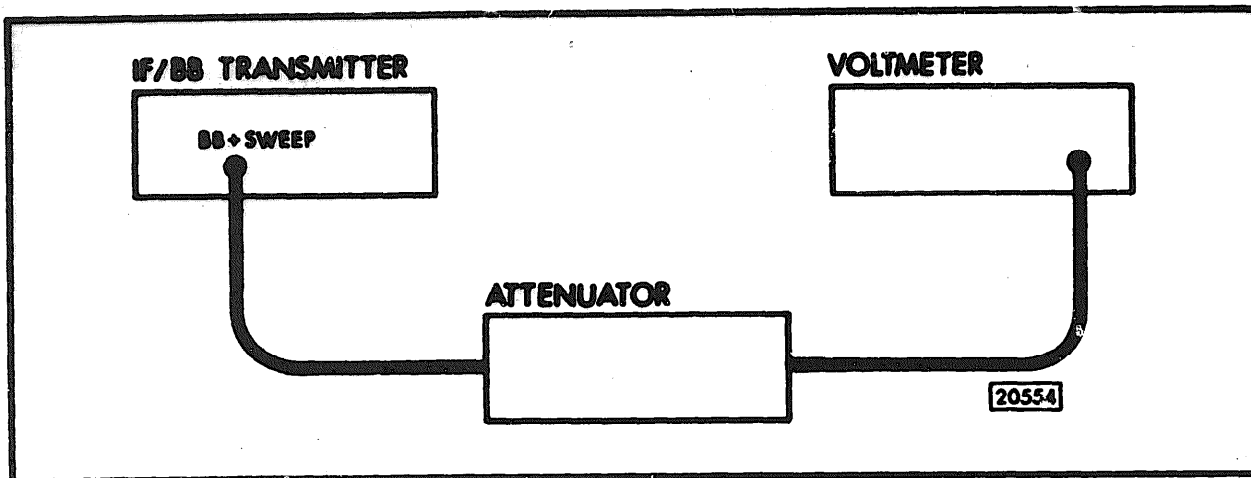

Figure 4-3 BB + Sweep Output Level Check
2. Set the BB FREQUENCY (9) to 83Δ (Opt. 92 Δ)
3. Connect the 3403C RMS Voltmeter, terminated in 75Ω, to the BB + SWEEP OUTPUT (C) and check for a reading between 0.259 and 0.290V.
4. Set the VERNIER (2) counterclockwise and check that the reading falls by at least 30mV.
5. Repeat steps 3 and 4 at all other settings of BB FREQUENCY (9) except OFF.
6. Disconnect the 3403C RMS Voltmeter and connect the equipment as in Figure 4-3. Insert 49dB in the Attenuator and adjust the VERNIER (2) to give a convenient reference reading on the 3400A RMS Voltmeter, dB scale.
7. Remove 1dB from Attenuator and set the 3716A BB POWER (6) to 1dBm.
9. Using the Attenuator check all positions of BB POWER (6) attenuator for ± 0.5dB accuracy.